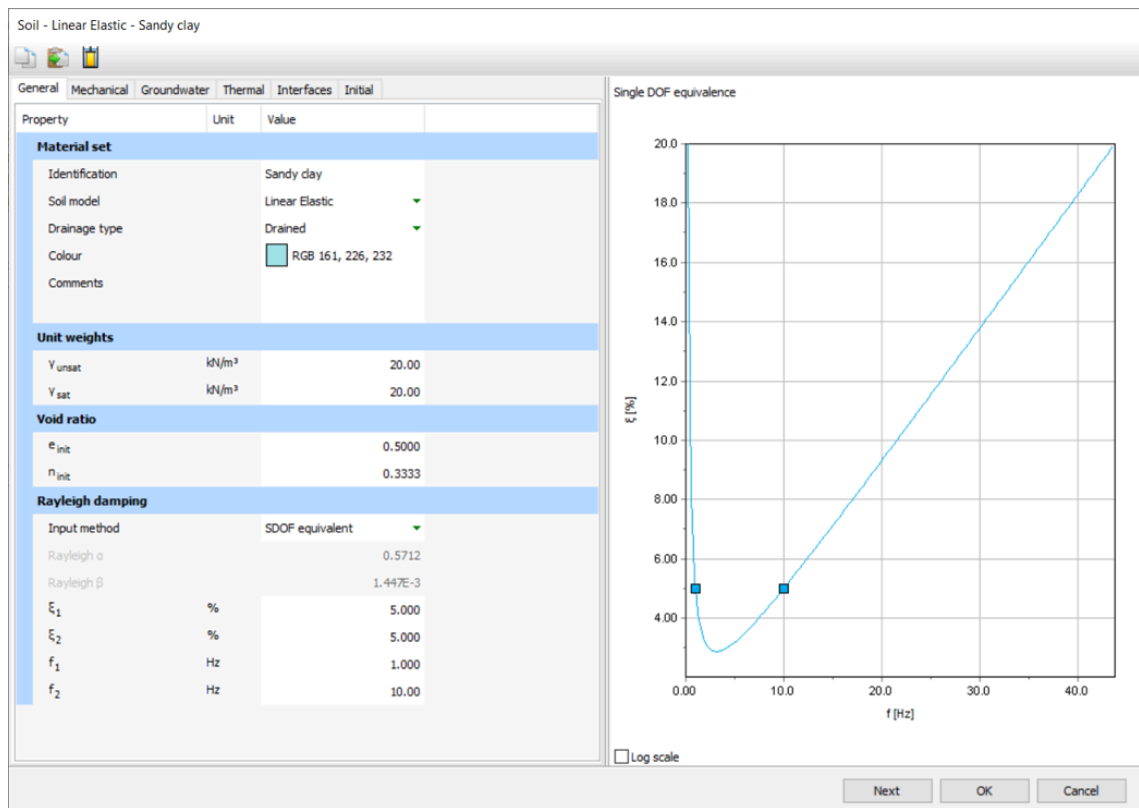

Figure 15–8: Input of Rayleigh damping
- 5 The values of α and β are automatically calculated by the program as shown in Figure 15–8 (p. 240).